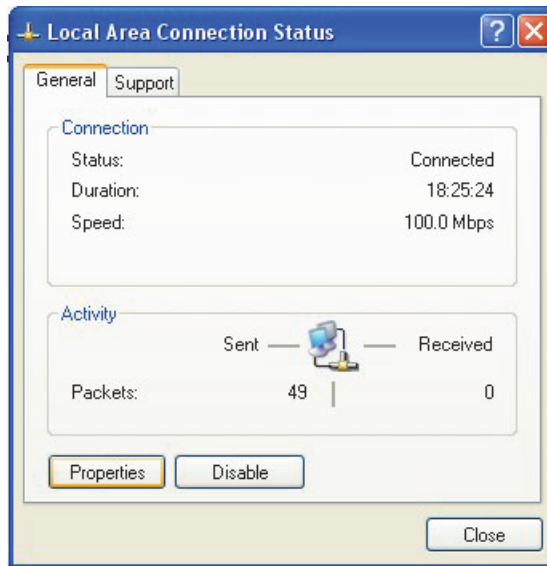

Figure 7-7 The Local Area Connection Status dialog box (Windows XP)
3. Double-click the connection used to establish the link with the OmniScan MX2. The **Local Area Connection Status** dialog box appears (see Figure 7-7 on page 198).